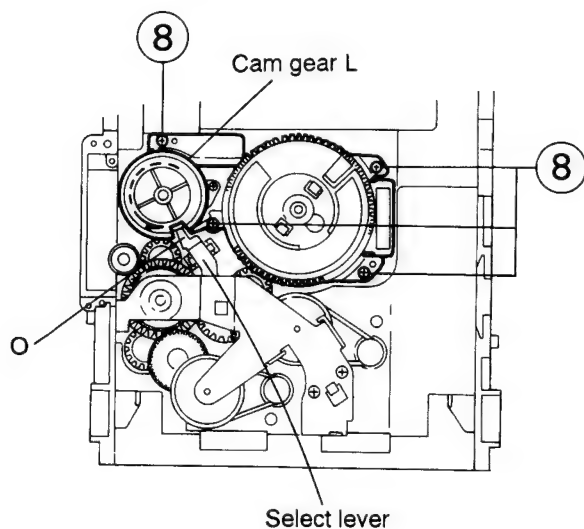

Fig. 5-39
5. Remove the four screws (8) retaining the cam unit (cam gear L and cams R1/R2 assembly) (See Fig. 5-39).